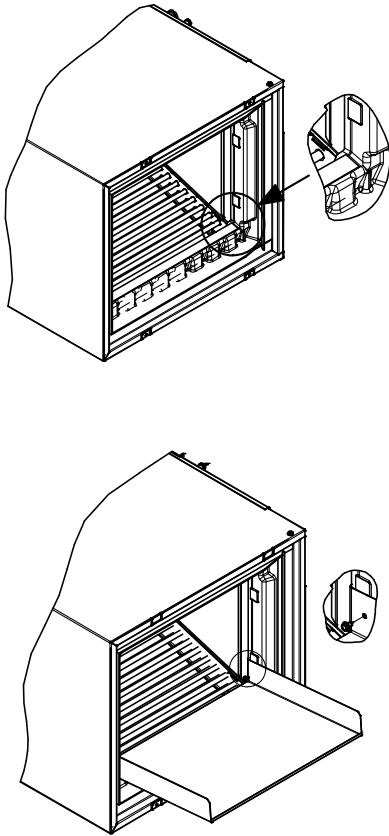

Fig. 7 – Condensate Pan Extension Cork Tape Location A170282A
6. Use cork tape to create air seal between the undersides of the pan extension and front of the vertical drain pan as shown in Fig. 7.
7. Install included condensate pan extension and two corner screws as shown in Fig. 7.